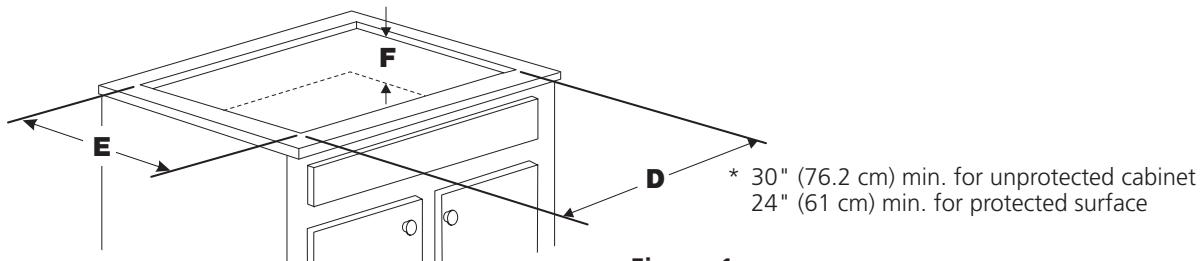

Figure 1
2. The flexible armored cable extending from the appliance should be connected directly to the junction box. The junction box should be located as shown in Figure 1 or Figure 2 and with as much slack as possible remaining in the cable between the box and the appliance, so it can be moved if servicing is ever necessary.